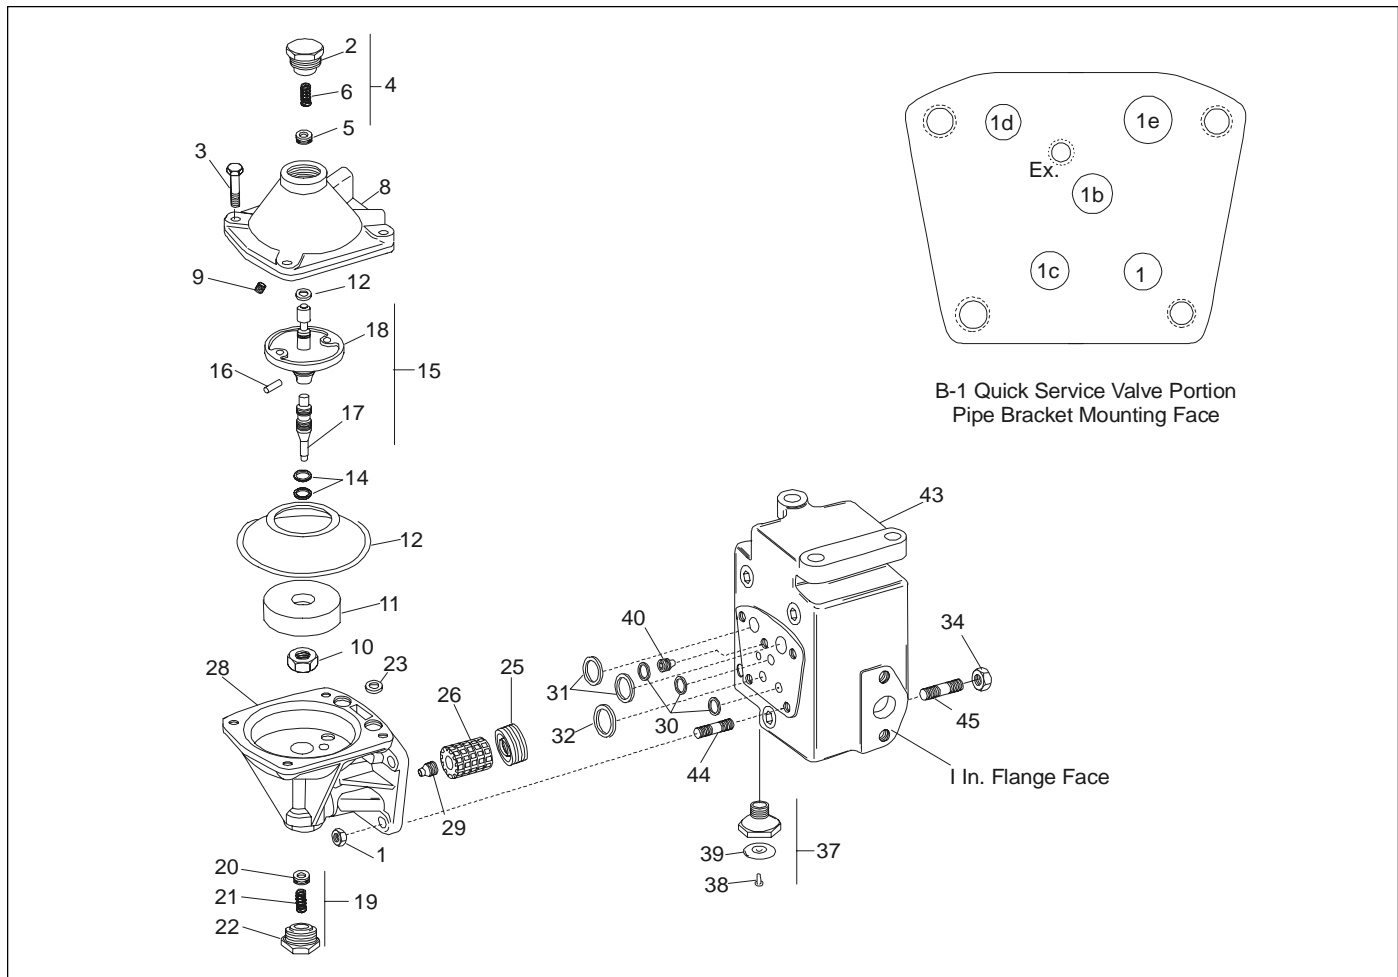

Figure 5 - "B-1" Quick Service Valve Portion & Pipe Bracket Portion - Exploded View
8.0 PORTION REMOVAL & INSTALLATION "ON-CAR" Figure 5
8.7 #8 VENT VALVE PORTION (Figure 5)
8.8 VENT PROTECTOR ASSEMBLY (Figure 5)
(Figure 5)
▲10.3 ASSEMBLY (Figure 5)